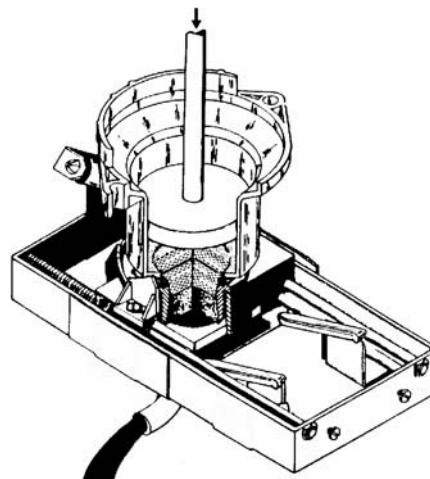

FIGURE 605
4. Upon the fill delay period the motor will start and move the piston about one inch into the clear cylinder and stop. This is now at the **Extra Strong Delay** position. A small amount of water is pushed into the brew chamber with the coffee grounds. This delay causes the coffee to steep in the water longer for extra extraction. (See Figure 605 below)